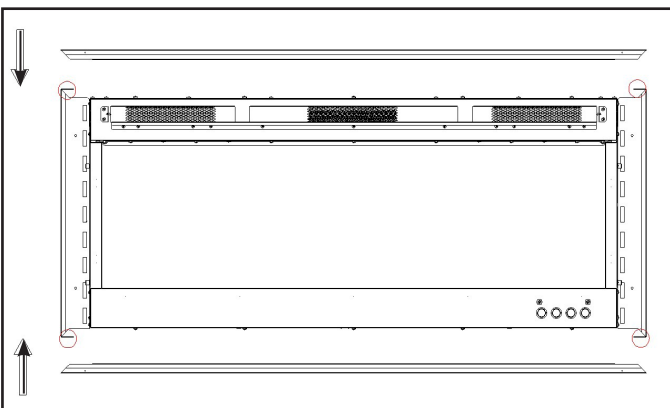

Figure 8 Attach Top and Bottom Trim Skirt to Side Trim Skirt
7. Insert the threaded studs on the top and bottom trim skirt into the holes on the side trim skirt and fasten them with M4 nuts. See Figure 8 & 9.